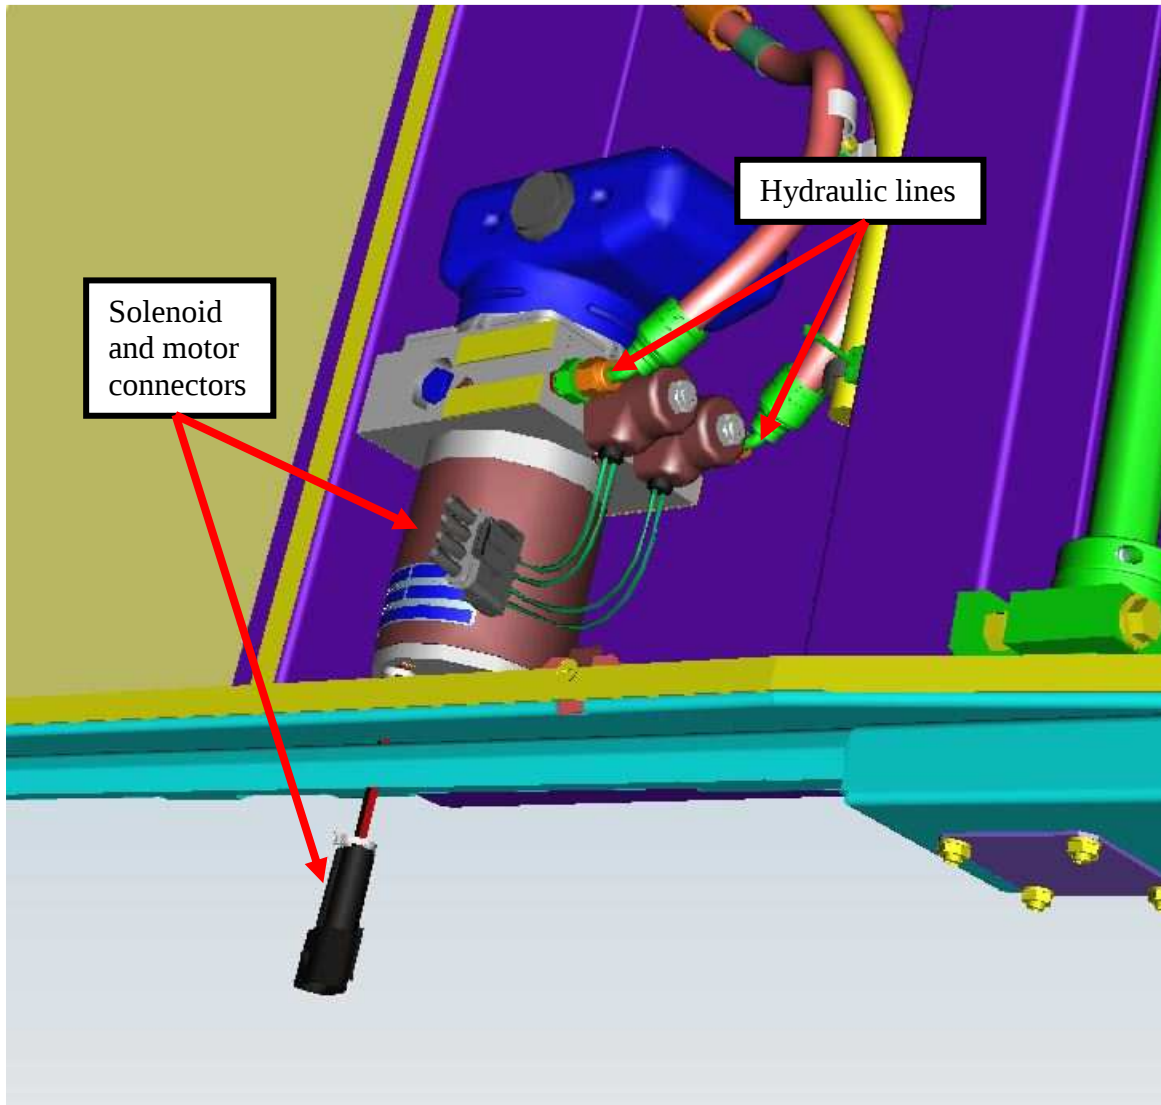

Figure 3: Electric connectors and hydraulic lines
- a. Disconnect the solenoid electrical connector and the motor electrical connector. Figure 3.
- b. Mark the location of the hydraulic hoses and disconnect the hydraulic hoses and plug the end of the hoses. Figure 3.